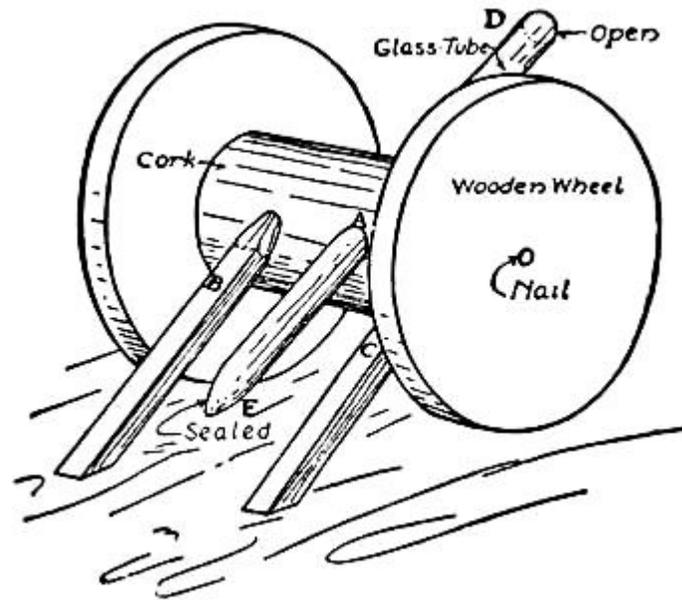

FIG. 294.—Another Toy Cannon.
**Another Toy Cannon** that is simple to make is shown in Fig. 294. For this, buy a short piece of glass tubing at a drug-store and have the druggist seal one end of it. Then secure a good-sized cork and cut a hole through the side large enough for the tube to run through (see *A* in Fig. 294). Cut out a pair of wooden wheels about three inches in diameter, and fasten them to the ends of the cork with a pin or small nail. Make the cannon shafts four inches long, point one end of each and stick them into the cork at *B* and *C*. The open end of the tube should be at *D* and the sealed end at *E*.